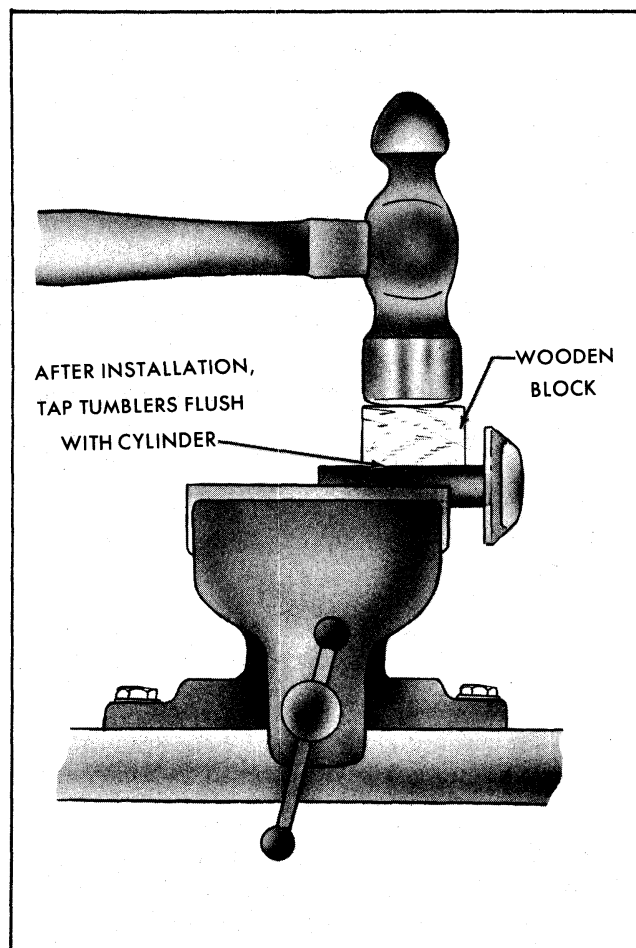

Fig. 1-7-Locking Tumblers in Place
4. Place small wooden block flat on exposed tumblers and tap tumblers down flush with cylinder as shown in Figure 1-7.